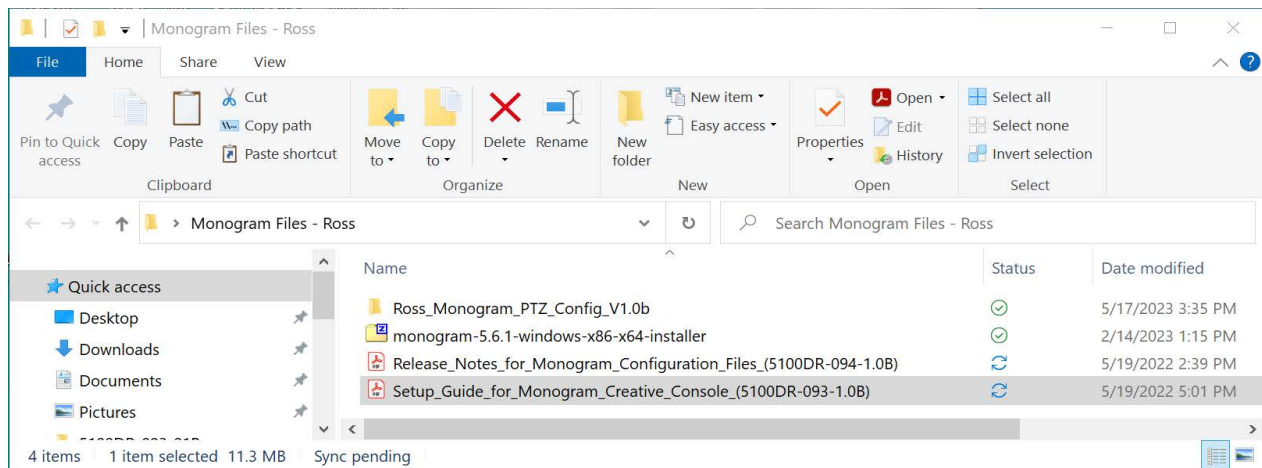

Figure 83 - Monogram Files Folder, showing Current Version Number (in this example, V1.0b)
1. Navigate to the folder that contains the currently-installed Monogram files (Figure 83).
2. Note the version number at the end of the folder name. For example, in Figure 83, the version number is **V1.0b**.